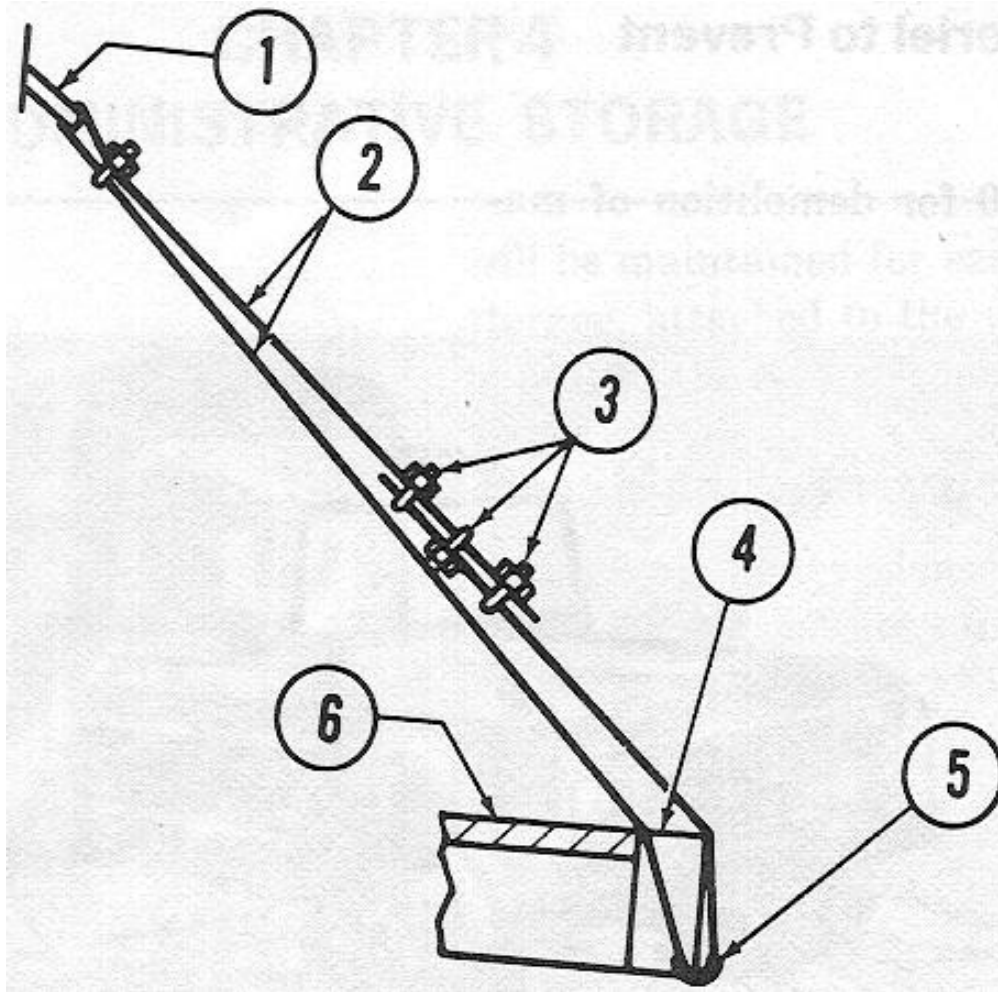

FIGURE 4-4. Cable tie downs.
- (4) Cable tie down. Pass one end of the ½-inch steel cable through the vehicle towing shackle and the other end through a flatcar stake pocket. A ½-inch metal thimble is used to protect the steel cable where it passes through the flatcar stake pocket. Pull the steel cable tight removing all slack and secure with four ½-inch cable clamps. Refer to figure 4-4.